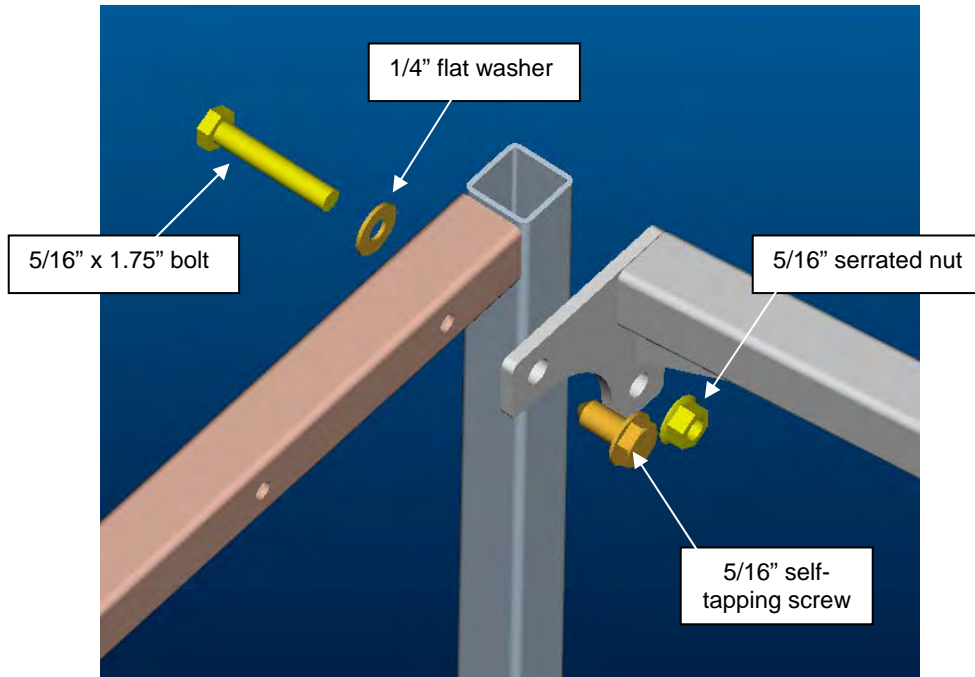

FIGURE 6
10. Locate the rear upper cross member #2-14668. Secure using (2) two 5/16" self-tapping screws, (2) 5/16" X 1.75" bolts, (2) two 1/4" flat washers and (2) 5/16" serrated nuts. See Figure 6. Torque to 20 ft. lbs. (27 N*m).